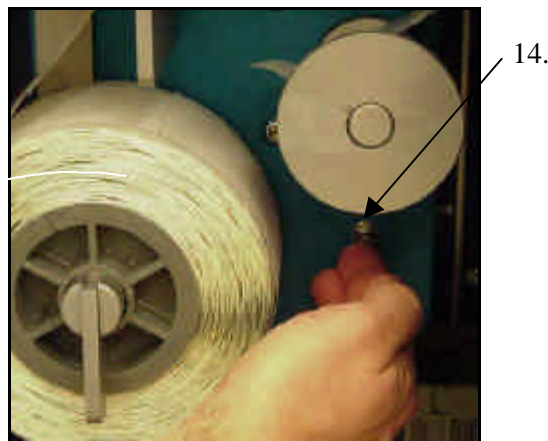

Figure 29: Setting the Tag Dispenser Switch to ON
14. Place the tag dispenser switch in the **ON** (up) position (**Figure 29**).